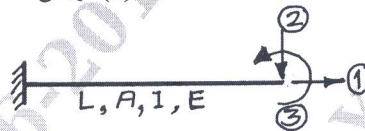

Fig.Q1(a)
- 1 a. Develop the element flexibility matrix for the member shown in Fig.Q1(a) with respect to the coordinates shown in Fig.Q1(a).